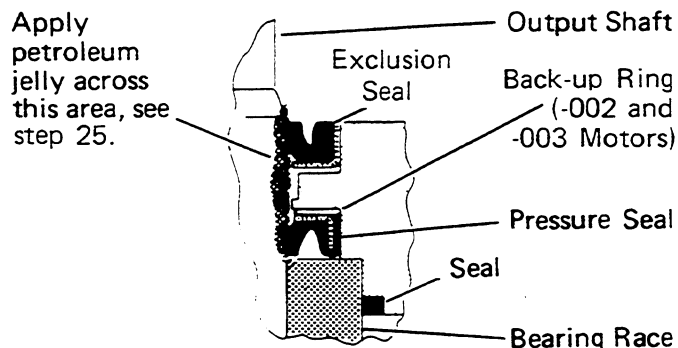

Figure 13
**25** Before installing flange and seal assembly over shaft, place protective sleeve or bullet over shaft. Then lubricate space between exclusion seal and pressure seal, as well as lips of both seals. See Figure 13.